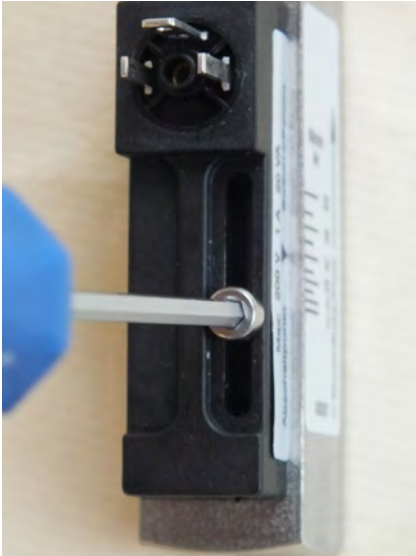

Fig. 51: Loosen set screw
3. Using a hex screwdriver (Fig. 51), loosen, then remove the set screw of the switch contact